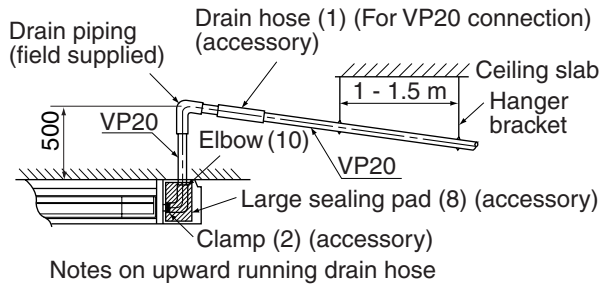
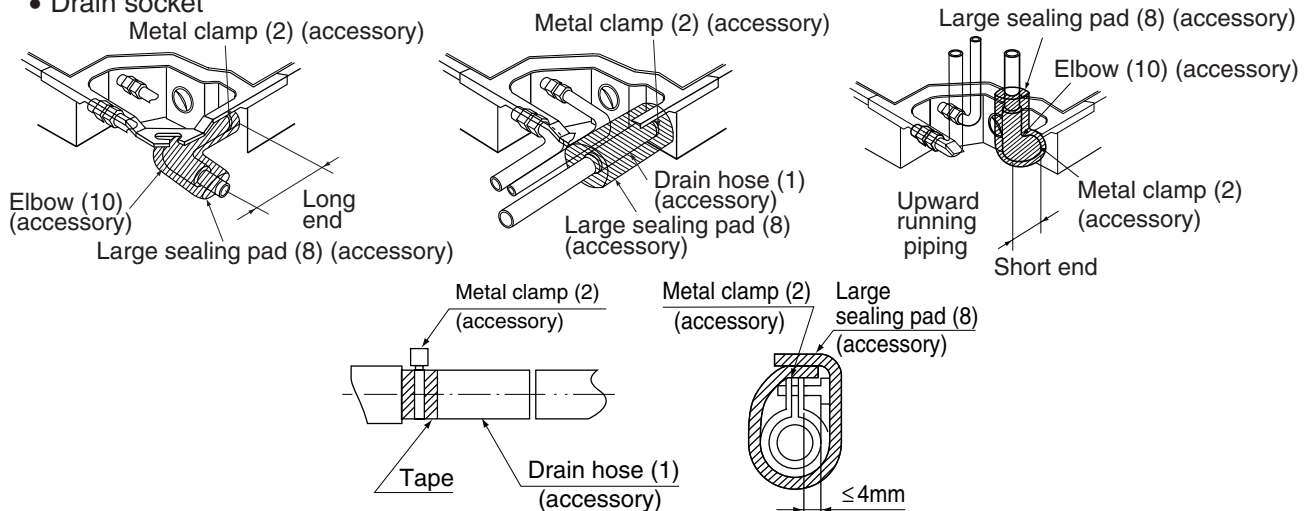

Fig. 26
Fig. 28
### 1. Rig drain piping (Refer to Fig. 26)
- To keep the drain hose from sagging, space hanging wires every 1 to 1.5 m. (Refer to Fig. 26)
- Use only the included drain hose (1), (for rightward running drain hose) or elbow (10) (for upward running drain hose) and clamp (2).
- Fit the drain hose (1) or elbow (10) over the drain pipe up to the neck and fasten tight with the clamp (2).
- Insulate the clamp (2) and drain hose or elbow (10) with the included sealing pad (8). (Refer to Fig. 28)